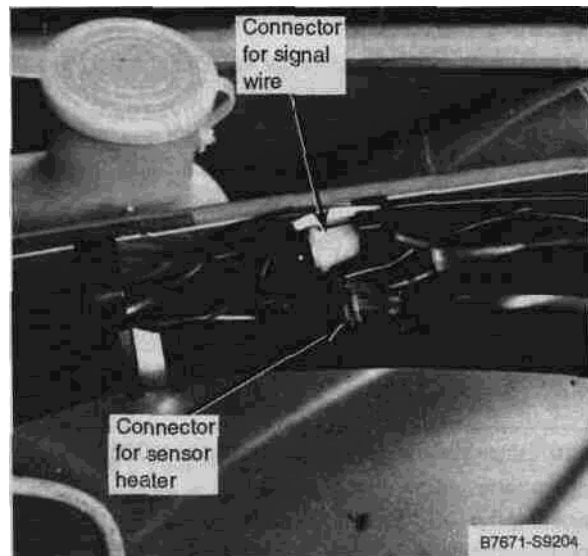

Fig. 20. Oxygen sensor wiring connectors are located on right (passenger) inner fender well, just above battery
1. Disconnect the sensor's single black wire (sensor signal wire). See Fig. 20.